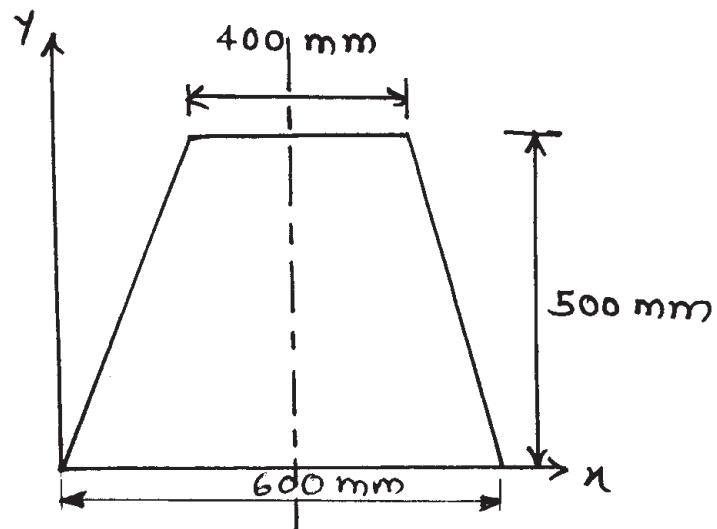

Figure No. 10
- c) Calculate position of centre of gravity of the Frustrum of cone as shown in Fig. No. 10.